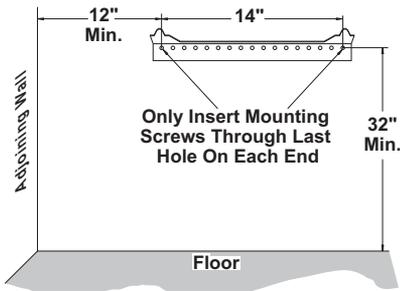

Figure 8 - Mounting Bracket Clearances
WARNING: Maintain minimum clearances shown in Figure 8, page 10. If you can, provide greater clearances from floor and joining wall.
2. Mark screw locations on wall (see Figure 8).